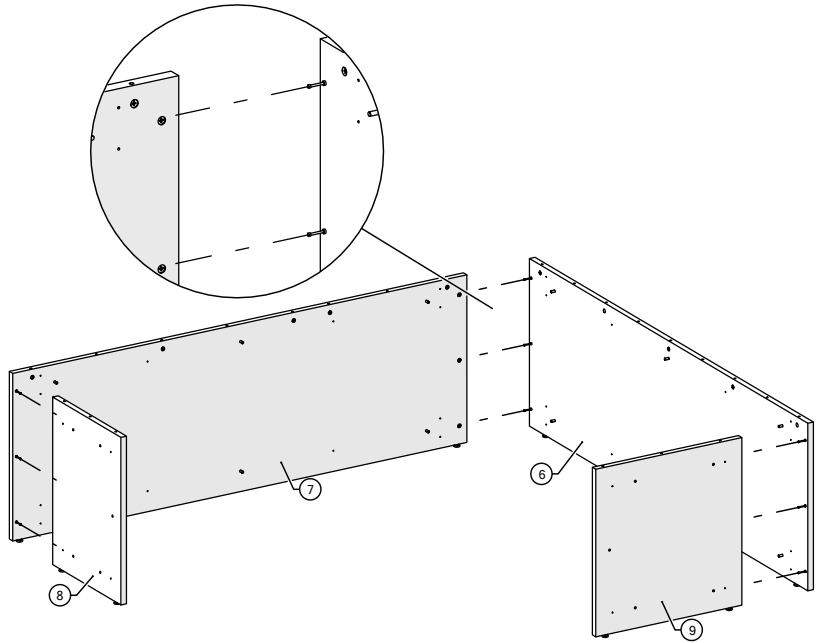

Figure 7
7. Connect the modesty front, modesty return, gable LH, and gable RH and press tightly together by inserting the combi dowels into the side holes (Figure 7).